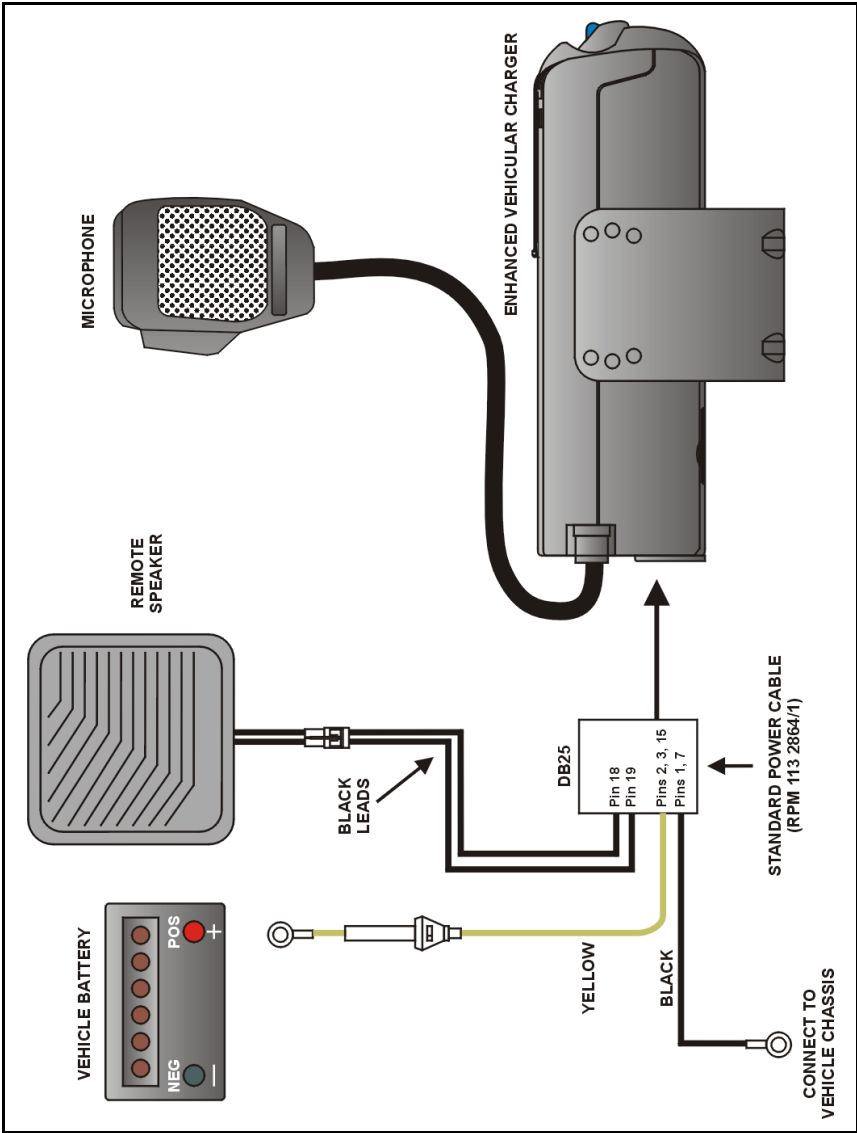

Figure 4-15: Standard Power Cable, Speaker and Microphone Installation Diagram
1. Plug the DB-25 connector into the back of the Vehicular Charger as shown in Figure 4-15.
3. Connect the BLACK lead to the vehicle chassis. Connect the lead as close to the vehicular charger as possible. DO NOT connect the BLACK lead to the "NEG" or "-" battery post. Connect the YELLOW lead to the positive power source "POS" or "+" battery post. See Figure 4-15.
Connect the two black wires with the Molex[®] connector to the speaker cable as shown in Figure 4-15.
Plug the microphone cable into the connector on the back of the charger as shown in Figure 4-15. Secure with a flat blade screwdriver.